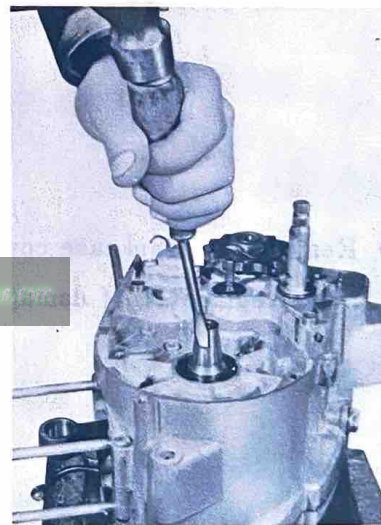

Fig. IV-7-8
- D. Remove the woodruff key. (Fig. IV-7-8)